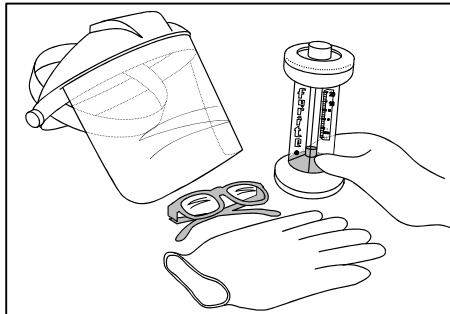

Figure 1a. Protective equipment required before attempting gas analysis.
Review Figures 1a,1b, 1c and 1d on this page. Make certain to follow the steps outlined below and read the fluid handling precautions for your personal safety.
- 1) Always use protective equipment such as safety goggles, gloves, and protective clothing as illustrated in Figure 1a.